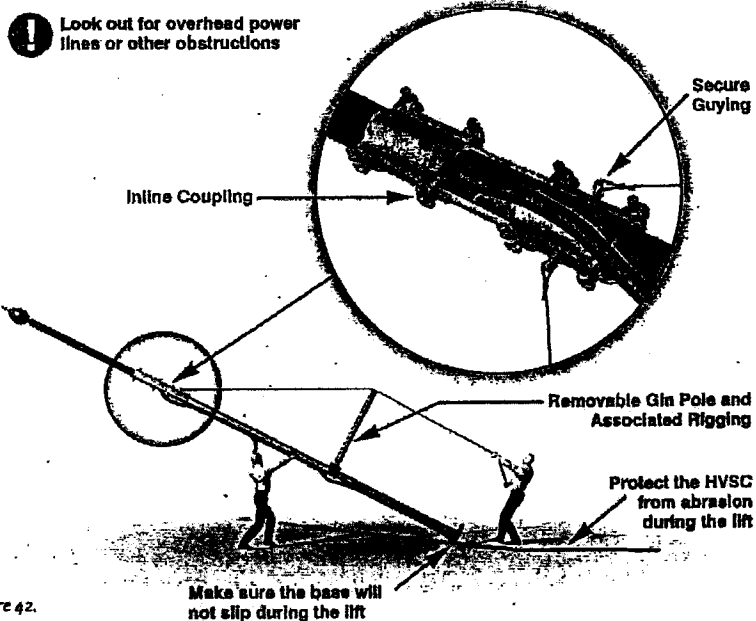

Figure 42.
- If required, fit the HVSC downconductor through the side entry of the inline coupling and through the FRP mast. Refer to Figure 42 on page 42.